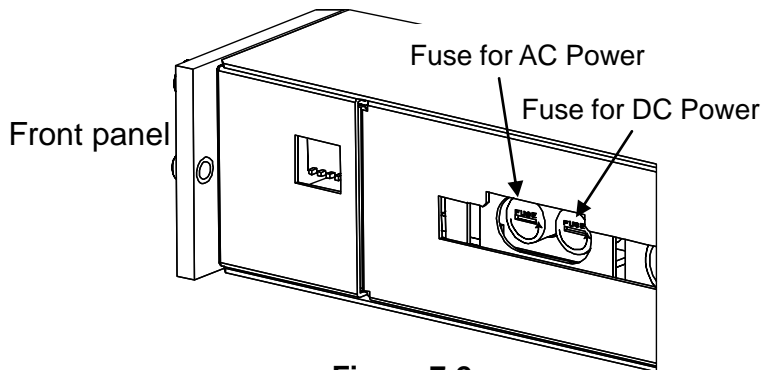
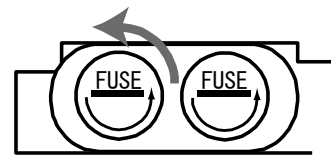

Figure 7-2
Figure 7-3
3. Use a flat-blade screw driver and turn the fuses to the arrow directions mentioned on the fuse holders. (See Figure 7-3, counter-clockwise)
6. When installing fuse holder, use a flat-blade screw driver. When pushing the fuse, keep the fuse holder slit to be vertical to the amplifier unit (Figure 7-2, dotted line), and then press deeply and turn clockwise by 90 degree.
7. Confirm that the fuse holder is fully installed in the amplifier unit as Figure 7-2. Also, confirm that the fuse holder slit (flat-blade screw driver contact portion) is parallel to the amplifier unit as Figure 7-3.